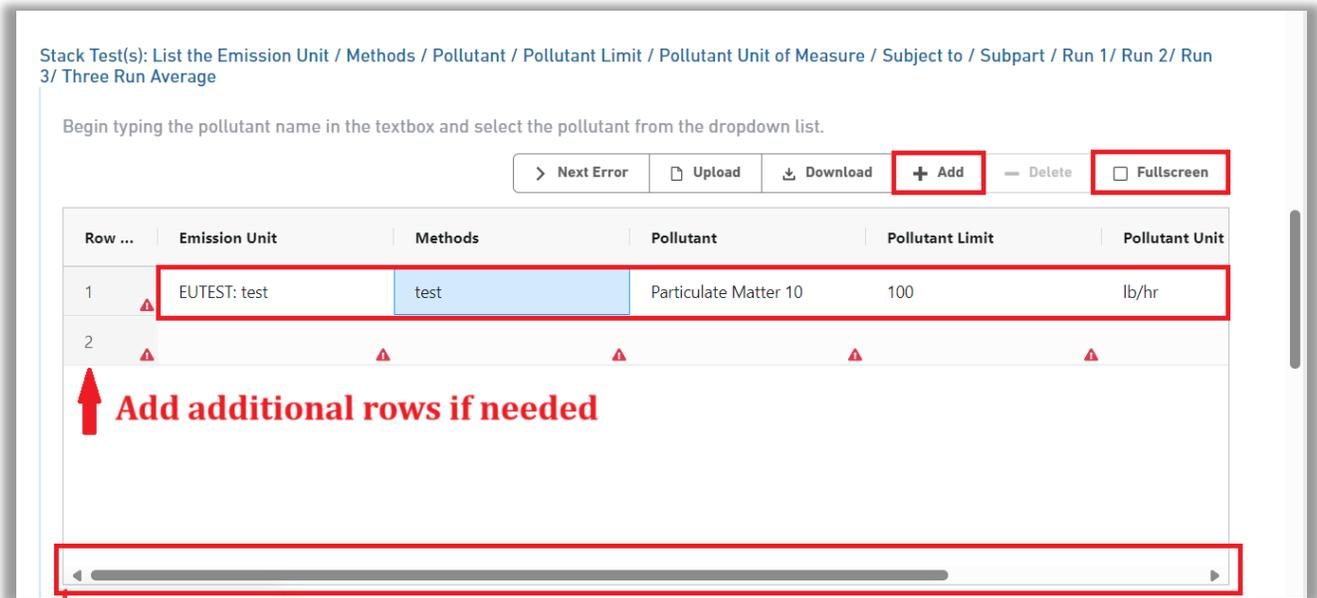

Figure 10-4 – Additional Information Table
**Example:** When you select Stack Test or RATA for the Test Type, a table will be available with additional required fields. See Figure 10-4.
- Click on the box next to Fullscreen to help ensure that all of the form is displaying or scroll left to right to ensure the entire form is filled out. In figure 10-4, there are two additional columns not visible on the screen. **All columns will be displayed in Fullscreen mode.** To exit Fullscreen mode, hover your mouse at the top of the screen and click the “X” when it appears.